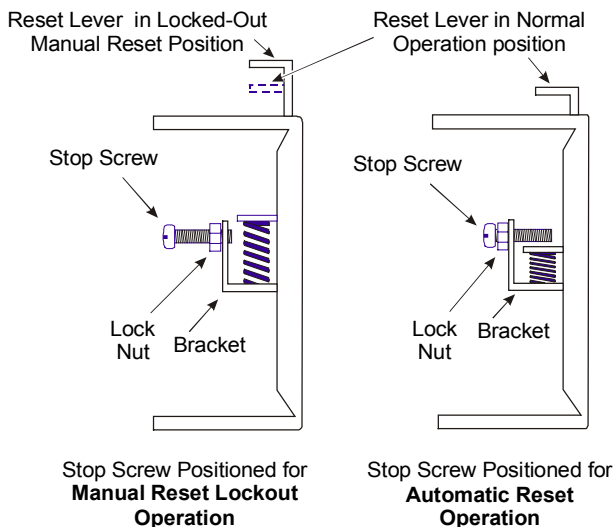

Figure 11: Setting the Convertible High Pressure Reset Mechanism (P70S or P170S Controls)
(See Figure 11.)
2. **For Manual Reset Operation:** Loosen the lock nut, unscrew the stop screw (counterclockwise) being careful to not remove the screw completely from the bracket. (See Figure 11.)
For Automatic Reset Operation: Loosen the lock nut, push the reset lever down, and screw in the stop screw (clockwise) fully. (See Figure 11.)